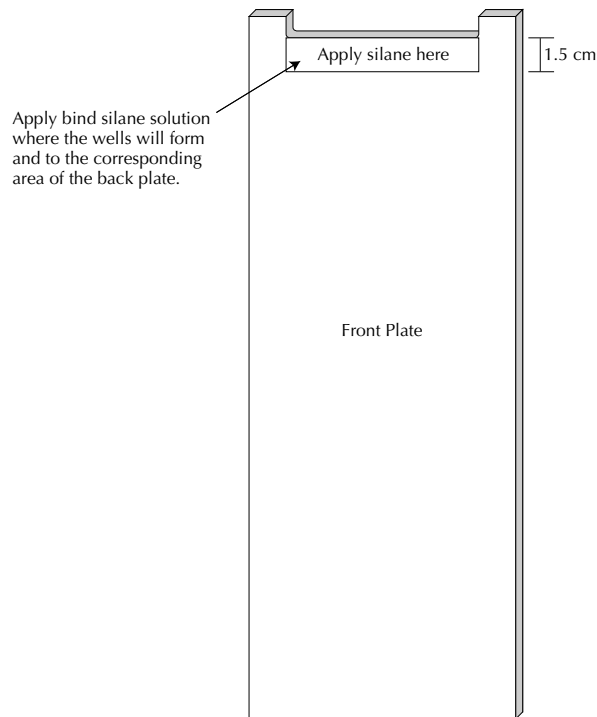

Figure 5-1. Apply bind silane to the plates as shown.
3.	Use a cotton swab to apply the solution to the area on the inside of the notched front plate where the wells will form (Figure 5-1). Use the front plate as a guide to determine where to place the bind silane on the back plate. Allow the solution to dry before gel assembly.